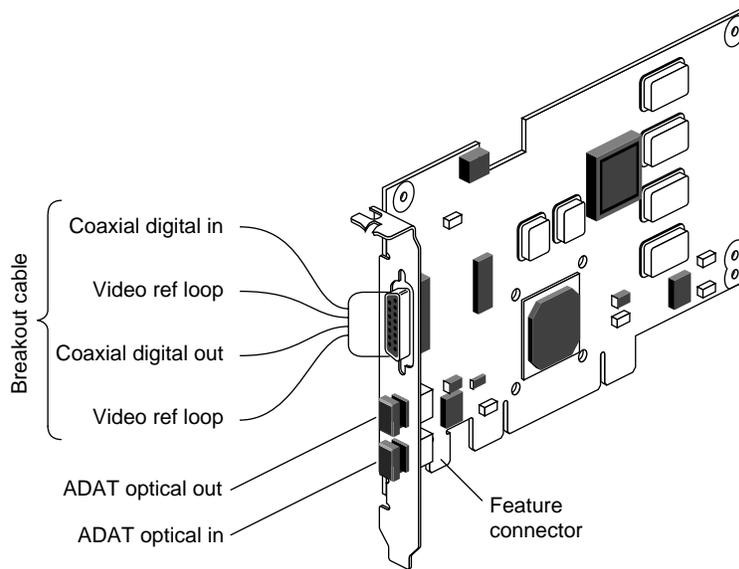

Figure 1-1 PCI Audio Option Board
- Figure 1-1** PCI Audio Option Board 2
The PCI audio option board (Figure 1-1) is a half size PCI expansion board that provides multichannel digital audio expansion via the PCI bus. It connects to consumer and professional audio and video equipment via industry-standard interfaces. If your workstation has multiple PCI slots, you can install multiple PCI audio option boards for more channels of synchronized digital audio. See the section in this manual for your workstation or server to find out the maximum number of boards you may install.
Note: The feature connector (see Figure 1-1) is not used in the O2 workstation.
1. Remove the dust caps from the ADAT® Optical interface connectors (see Figure 1-1).
3. Connect the breakout cable to the DB15 connector (see Figure 1-1). The breakout cable supports video synchronization and the AES-3id digital audio standard. The black and green video ref loop cables are interchangeable.